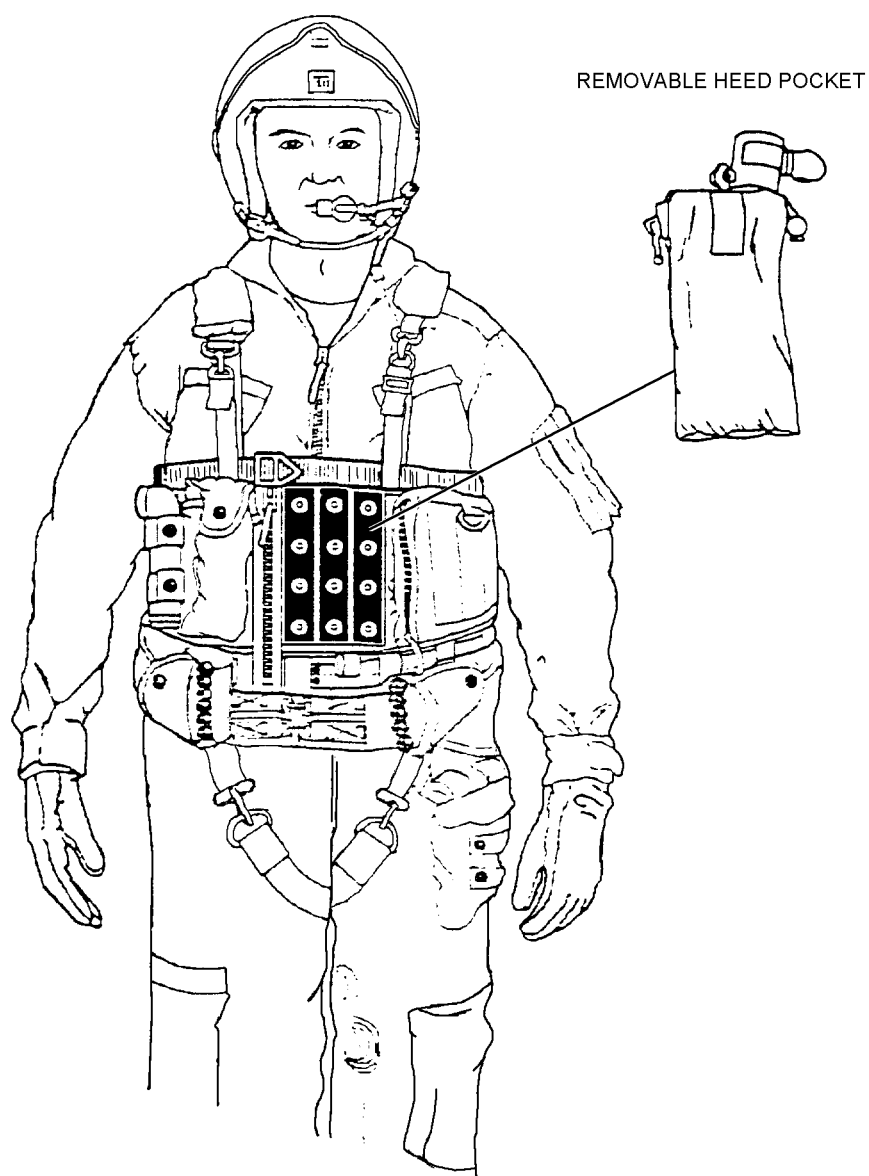

Figure 6-28. CMU-23A/P Survival Vest (Normal Configuration)
6-59. The CMU-23A/P Survival Vest is an SV-2B Survival Vest or CMU-23/P Survival Vest which has been modified in accordance with ACC 616 (as amended) for compatibility with the man-mounted pusher fan of the A/P23P-14A(V) CBR Protective Assembly (Upgrade) and the A/P22P-14(V)1 Respirator Assembly. Survival vests modified by ACC 616, and redesignated CMU-23A/P are dual purpose vests. For routine missions where there is no potential for CBR exposure, the vest can be configured like a non-CBR configuration in SV-2B Survival Vest (figure 6-28). With its interchangeable pocket configuration, however, the CMU-23A/P vest can be quickly reconfigured for missions requiring CBR protection.